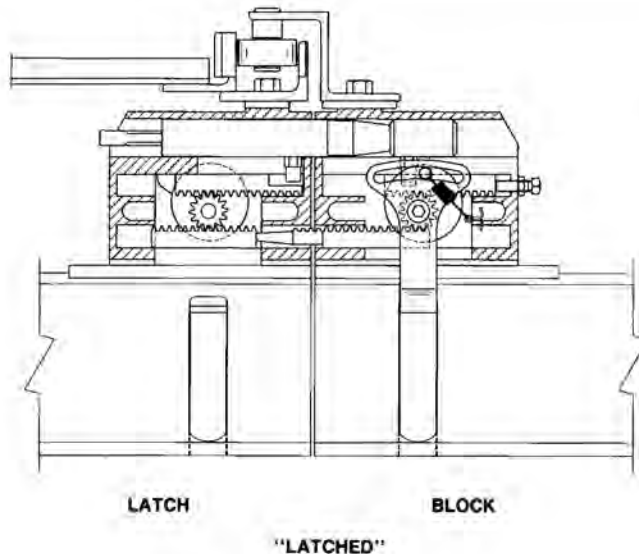

FIGURE 56
3. Refer to Figure 56 showing the mechanisms in “latched” position. Note that the grooved pin in the cam is in the upper position and slightly past center in the direction of rotation. The rotation of the cam is slightly over 180 degrees.
4. With the parts in “latched” position, adjust the set screw in the block so that it contacts the upper rack at the extreme end of travel as shown in Figure 56.